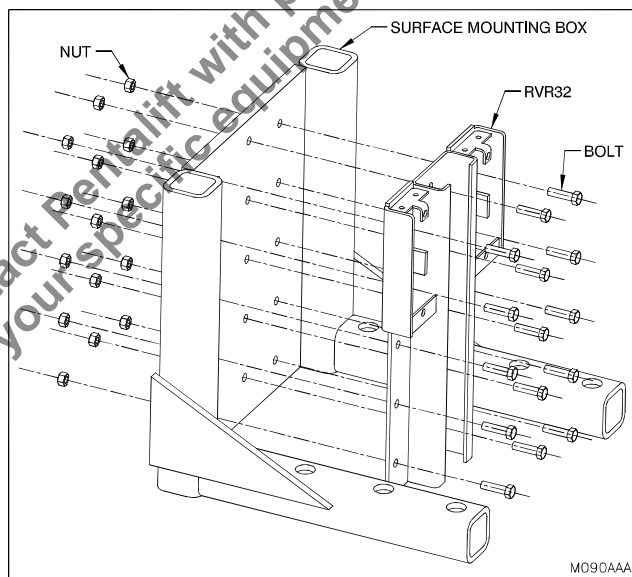

Figure 7: Horizontal Surface Mounting Box Installation
2. ___ Align the RVR32 with the surface mounting box and fasten using the supplied hardware, with the nut at the rear of the surface mounting box, in the order as shown in "Figure 7: Horizontal Surface Mounting Box Installation" on page 8. Insert the bolt from the front of the surface mounting box and torque each nut to a value of 150 ft-lbs.